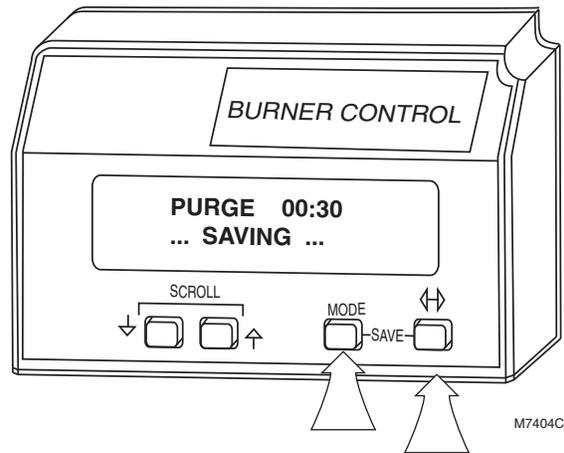

Fig. 22. SAVE function.
3. MODE pushbutton, see Fig. 22.